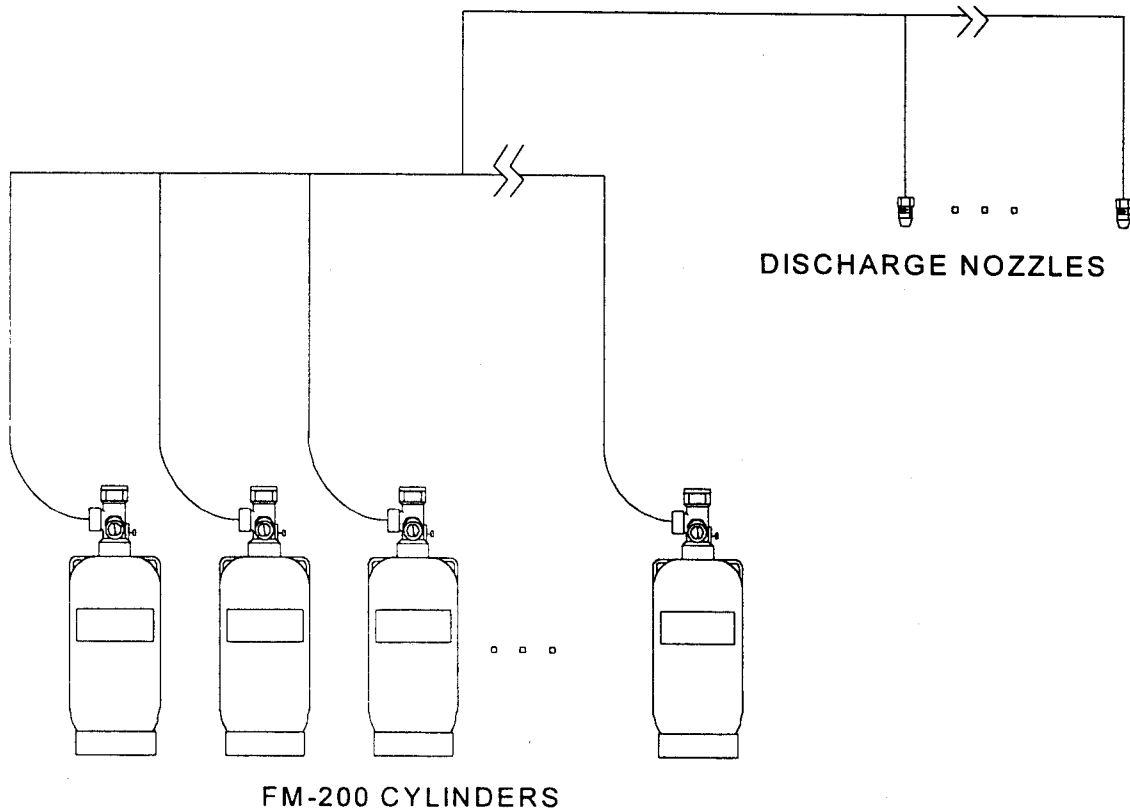

Figure 3.8.1 - Central storage system with common manifold and discharge piping (actuation components and EL-checks not shown).
3.8.1 Central Storage. Systems containing multiple cylinders with a common manifold and discharge piping (see Figure 3.8.1) must be of the same size and must contain the same amount of agent. In addition, manifold EL-checks must be installed on the discharge manifold of such a system to prevent agent discharge from the manifold in the event that any FM-200 cylinders are removed for servicing.